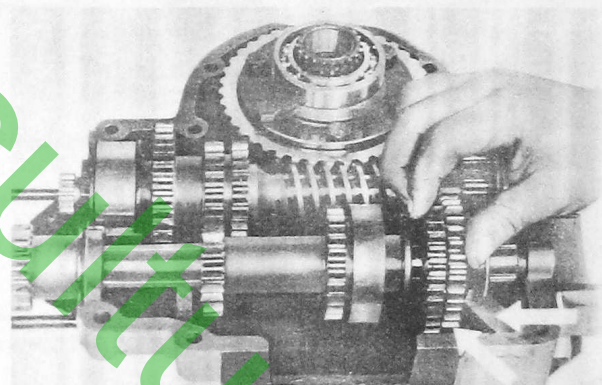

Fig. 63
7. The input shaft bearing gear (Fig. 63, left) into the
8. The input shaft of the gear train (Fig. 63, right).